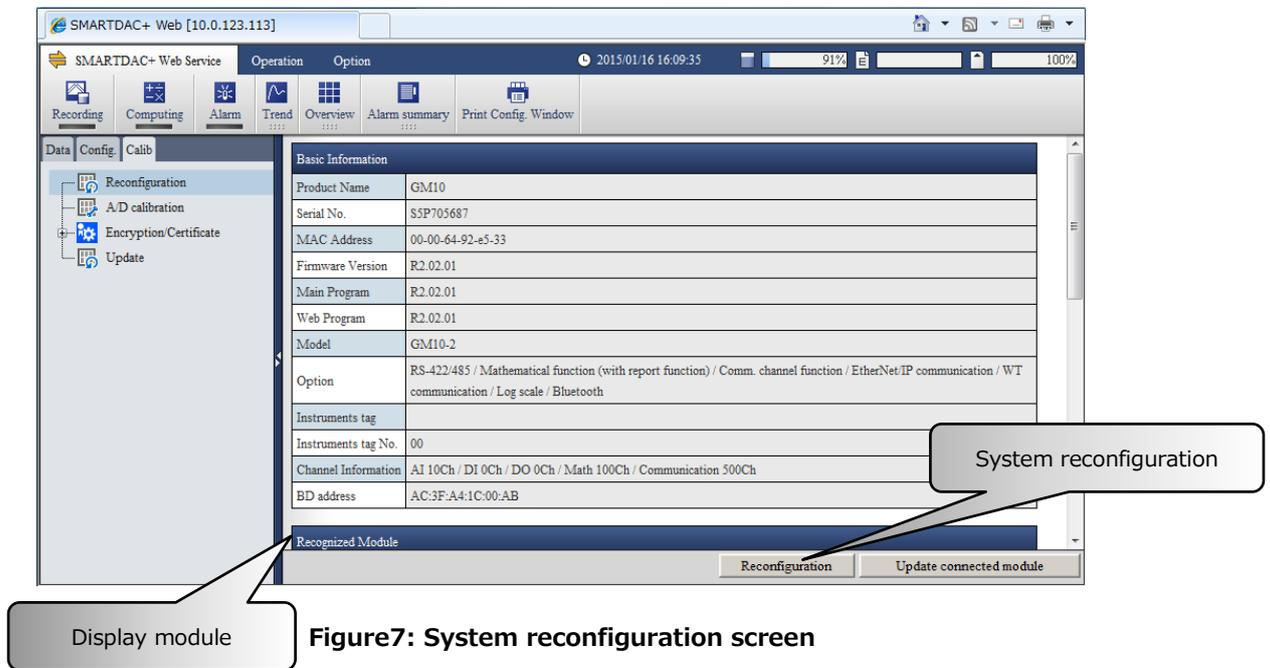

Figure7: System reconfiguration screen
- 8.2 Using the contents selection tool, click Calib > Reconfiguration to display the system reconfiguration screen (see figure 7).